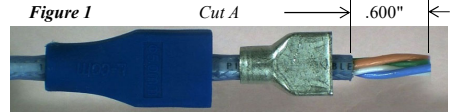

Figure 1
- 1) In order, Install ATUM Heat shrink, RJ45 boot, then metal rear shield onto the cable. (Fig. 1)
- 2) Make Cut A @ .600" from cable end, through the cable jacket (Fig. 1). Do Not nick or cut into wire insulation. Remove jacket, braids, and foil (Fig. 1). Inspect wire insulation to verify integrity.